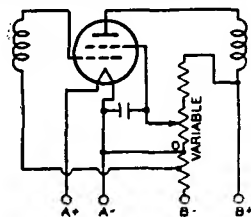

Fig. 88—Tetrode circuit in which screen-grid voltage is obtained from a potentiometer.
may be obtained from a tap on a voltage divider, from a potentiometer, or from a series resistor connected to a high-voltage source, depending on the particular tube type and its application. The screen-grid voltage for tetrodes should be obtained from a voltage divider or a potentiometer rather than through a series resistor from a high-voltage source because of the characteristic screen-grid current variations of tetrodes. Fig. 88 shows a tetrode with its screen-grid voltage obtained from a potentiometer.
**Screen-grid voltage variation** for the rf amplifier stages has sometimes been used for volume control in older-type receivers. Reduced screen-grid voltage decreases the transconductance of the tube and results in reduced gain per stage. The voltage variation is obtained by means of a potentiometer shunted across the screen-grid voltage supply. (See Fig. 88.) When the screen-grid voltage is varied, it must never exceed the rating of the tube. This requirement can be met by providing a fixed stop on the potentiometer.